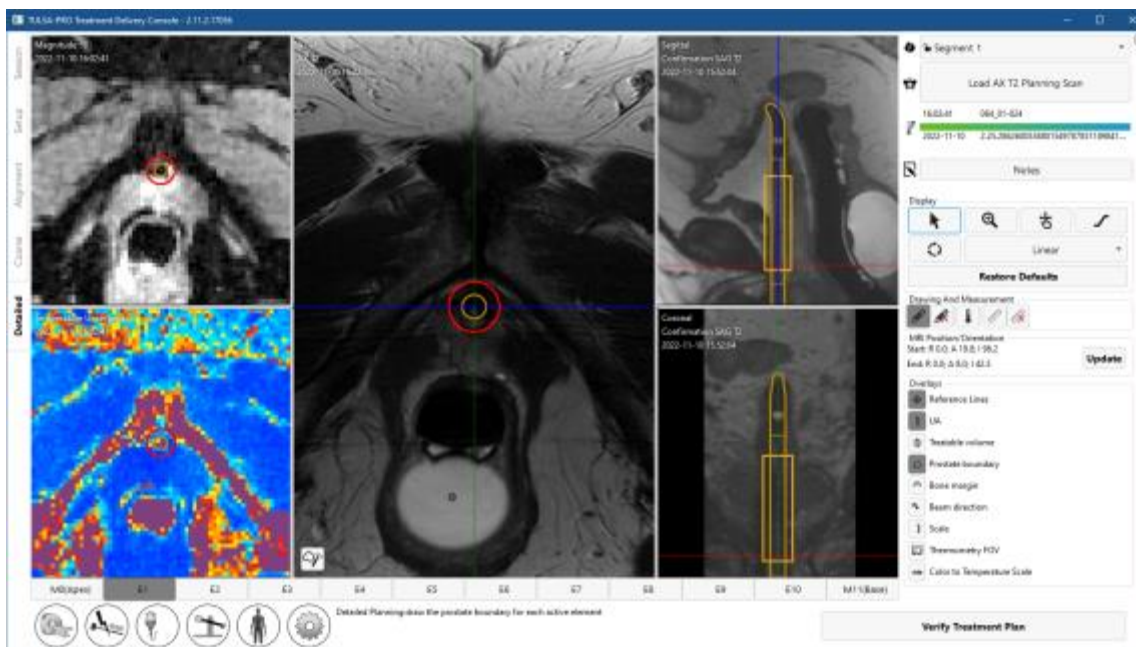

Figure 39: Detailed Planning workspace with Thermometry Magnitude and Temperature Uncertainty
9. Run AX THERM by clicking **Scan**. TDC will automatically receive the thermometry images. As the thermometry scans are received, the Magnitude and Temperature Uncertainty views will be displayed to facilitate treatment planning (*Figure 39*).